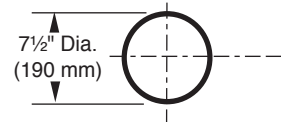

Figure 19 - Locate vent opening. NOTE: Zero clearance sleeve is required for combustible wall installations.
1. Locate the vent opening on the wall. Refer to Figures 18 & 19 to determine the top of the opening centerline. It may be necessary to first position the stove and measure to find the hole location. Depending on whether the wall is made of combustible materials, cut the opening to the size shown in Figure 19. Combustible wall openings must be framed as shown in Figure 19.